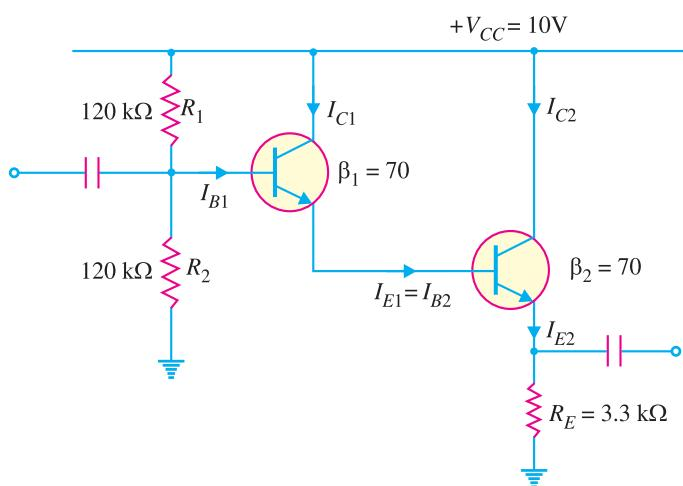

Fig. 13.28
**Example 13.24.** Determine (i) d.c. value of current in  $R_E$  (ii) input impedance of the Darlington amplifier shown in Fig. 13.28.